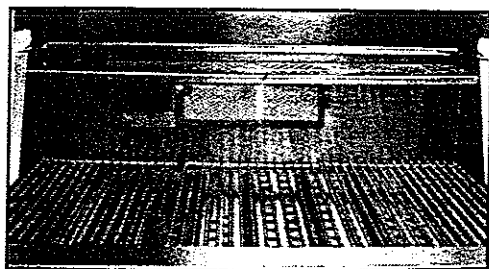

Fig. 6
4. Place warming shelf on support brackets by setting it flat across brackets allowing the two holes to line up with the stops on each bracket. (See Fig. 6)